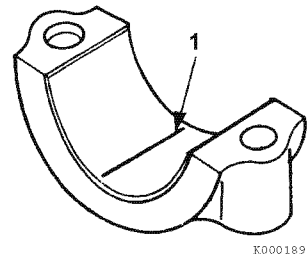

Figure 6-52
- 3- Place a piece of PLASTIGAGE® (1, **Figure 6-52**) along the full width of the bearing insert.